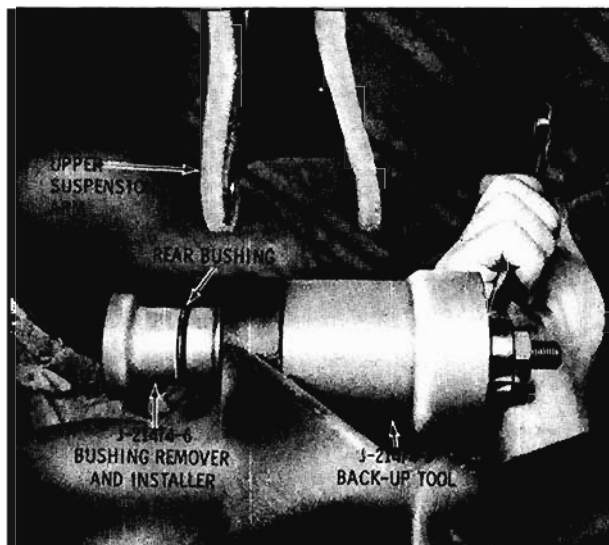

Fig. 9-136 Upper Arm Rear Bushing - Removal
BUSHINGS (Figs. 9-136 & 9-137)
3. Position tools as shown in Fig. 9-136 and pull bushing out.